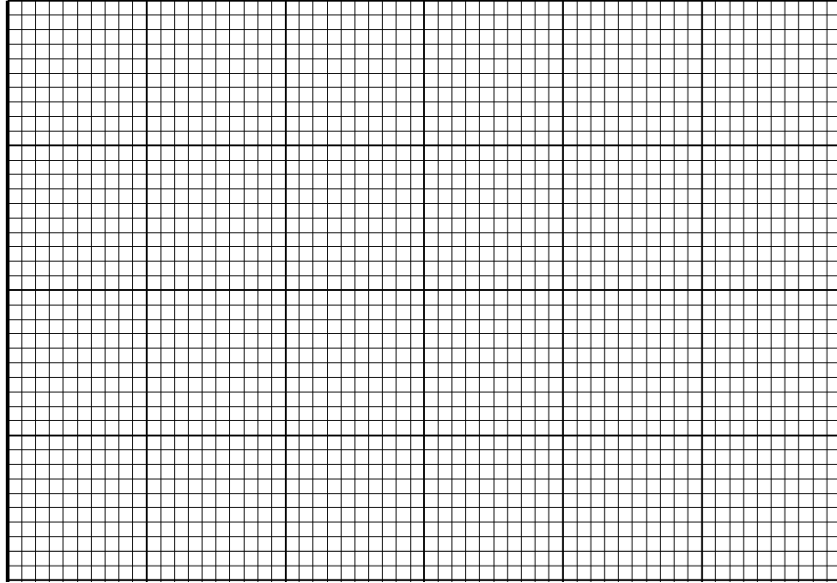

Fig. 4.3
- (ii)** On Fig. 4.3, sketch the variation with frequency of the amplitude of the oscillations of the metal cube between 2 Hz to 8 Hz.